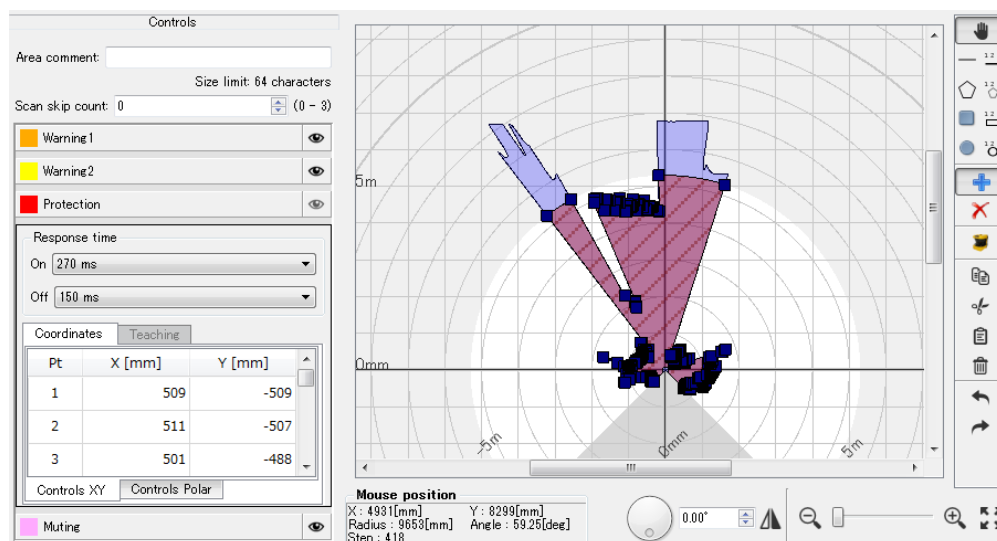

Figure 7-46 Area configured by teaching
- When the stop button is clicked, an area is generated by the smallest data recorded. Configured area will resemble the SE2L's background. (Figure 7-46). When configuring the protection zone, if the background is not within the maximum detection distance it is set to maximum detection distance of SE2L. In case of warning area, if there is no background within 20m from SE2L it will be set to 20m.